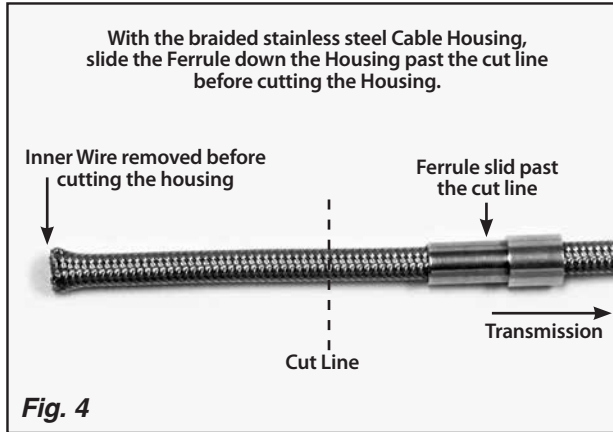

Fig. 4
Step 1: Remove the cable end stop, kickdown throttle body fitting, and kickdown cable adjuster from the new Lokar Kickdown Cable. **DO NOT remove the ferrule from the cable housing if the cable housing is braided stainless steel.** Fig. 4 Leave the kickdown mounting bracket on the kickdown cable adjuster. Remove the inner wire from the cable housing.
Step 5: Route the cable housing up to the kickdown cable adjuster. **Make sure that the inner wire is removed from the cable housing.** If the cable housing is braided stainless steel, slide the ferrule down the housing towards the transmission, away from the end that is being cut. **DO NOT remove the ferrule if your cable housing is braided stainless steel!** Fig. 4 If the cable housing is black universal, remove the ferrule.